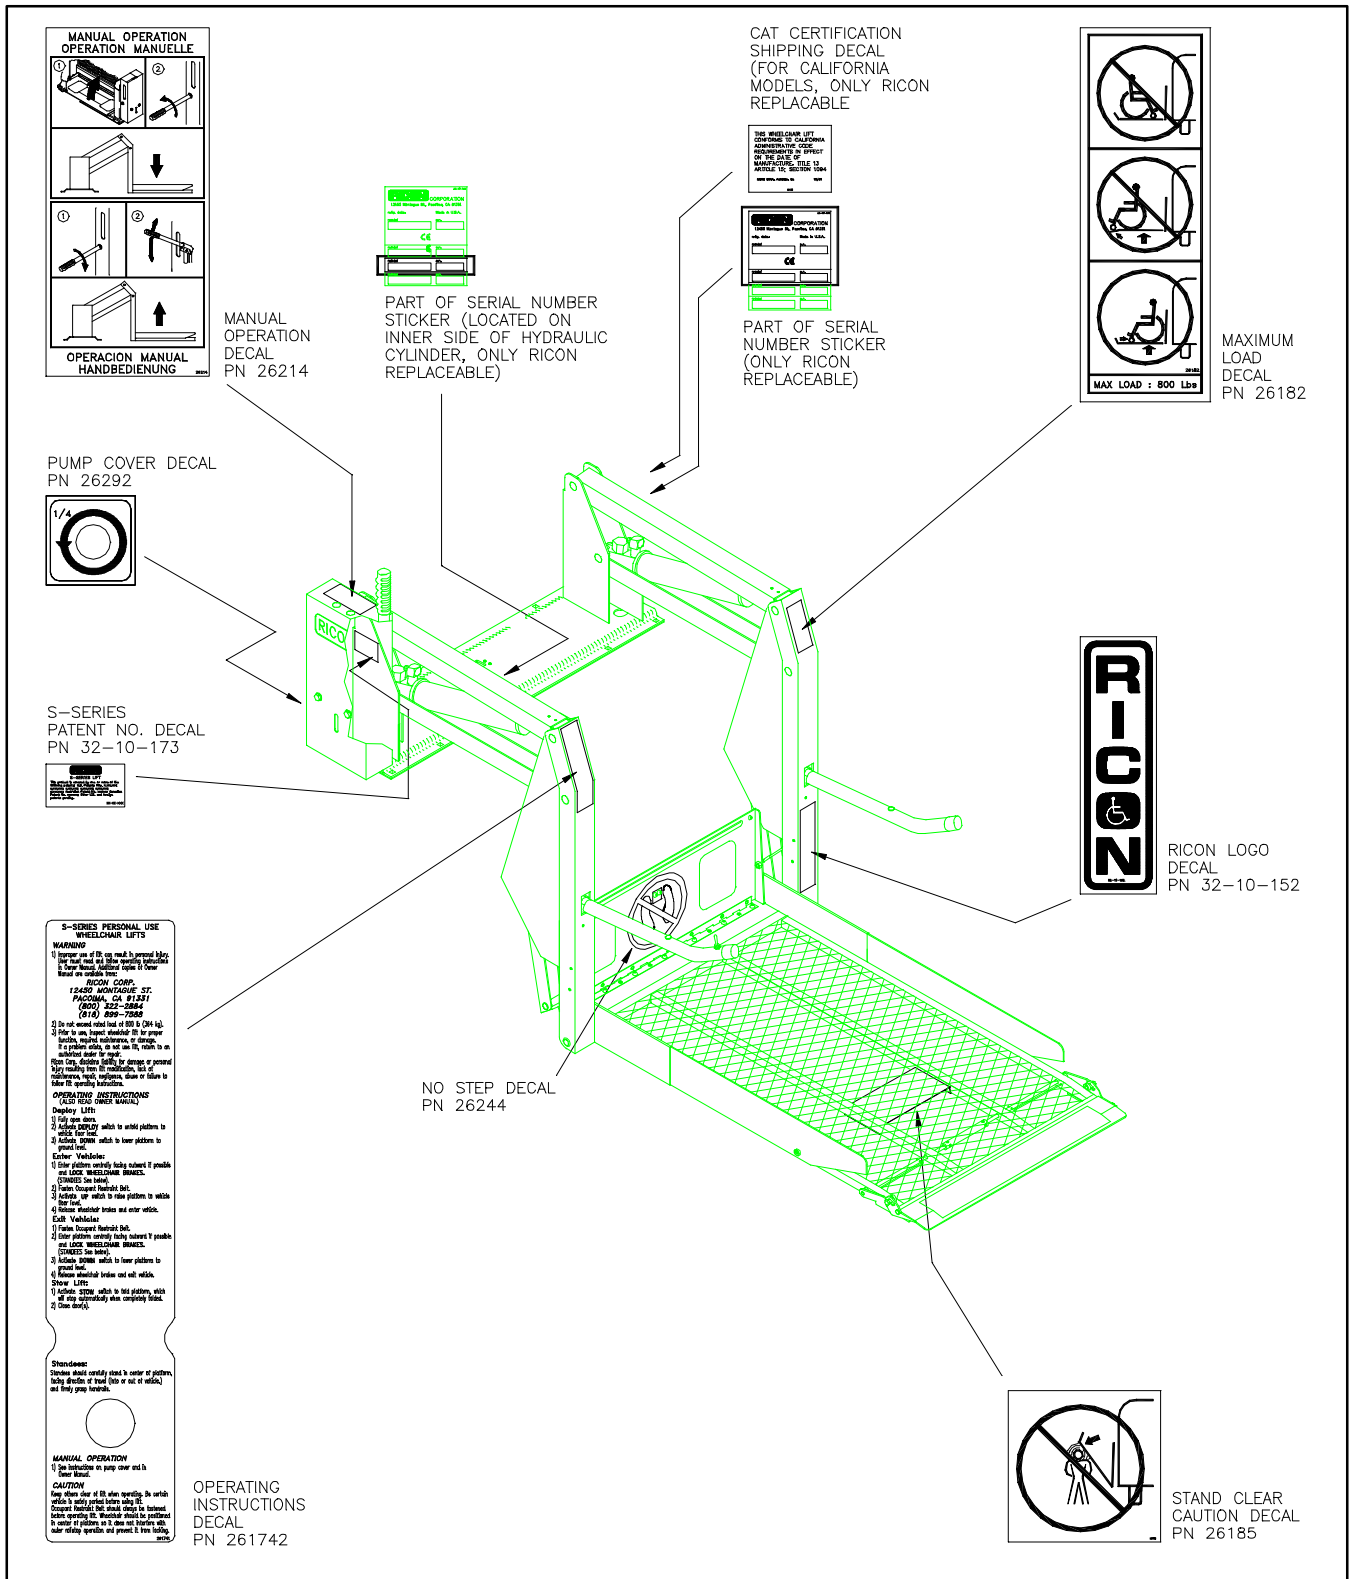

FIGURE 2-24: DECAL LOCATIONS AND PART NUMBERS
- Refer to **Figure 2-24** on next page and ensure that all decals are properly located and affixed as shown.